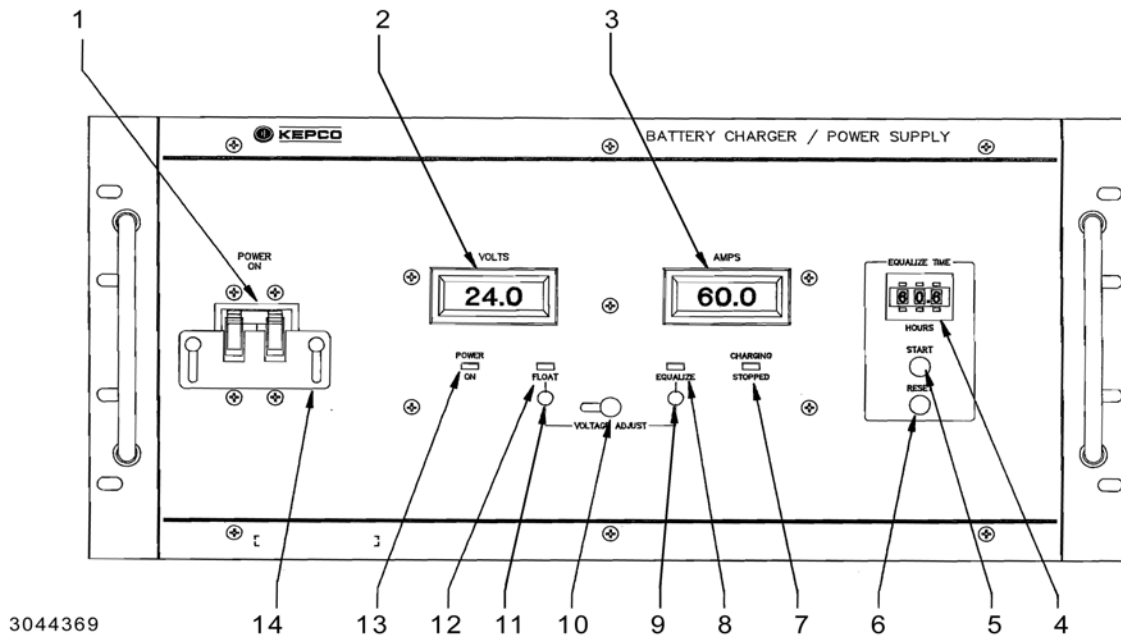

FIGURE 2-2. TBC 24-120M AND TBC 48-60M FRONT PANEL CONTROLS AND INDICATORS
- a. **Front Panel:** See Table 2-1 for a description of front panel controls and indicators. Refer to Figure 2-1 for all models except TBC 24-120M and TBC 48-60M. Refer to Figure 2-2 for TBC 24-120M and TBC 48-60M.